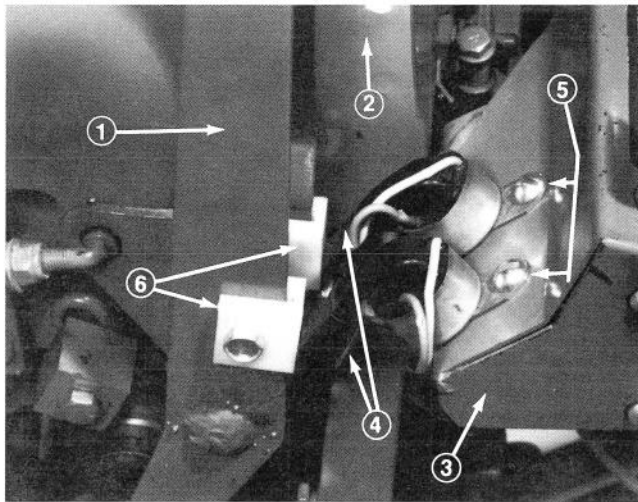

Figure 43
1. Remove shroud from around traction and cutting unit levers and position traction lever in N (NEUTRAL) and cutting unit lever is DISENGAGE position (Fig. 43).
so both switch levers contact the insulation blocks and are deflected 3/8 in. (10 mm). Tighten the nuts and capscrews (Fig. 43).
3. Loosen round head screw securing reel drive lever switch (Fig. 43). Move cutting unit lever switch in slotted hole in control panel to further deflect switch lever. Adjust until contact is lost between switch and cutting unit lever when top of lever (handle end) is moved 1/2 - 3/4 in. (13 - 19 mm) and tighten round head screw.